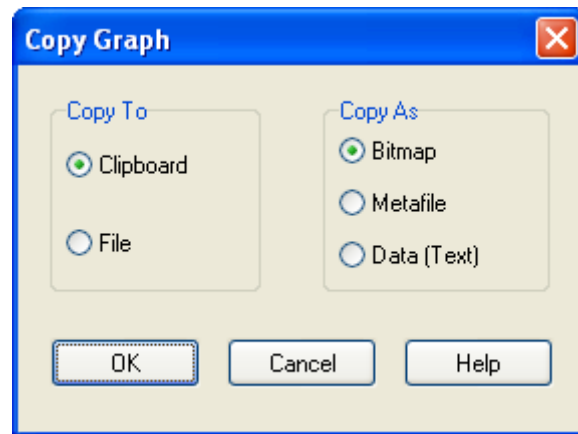

Figure 10-3. Example of the Copy dialog.
3. Select choices from the Copy dialog (see Figure 10-3) that appears and click the **OK** button.